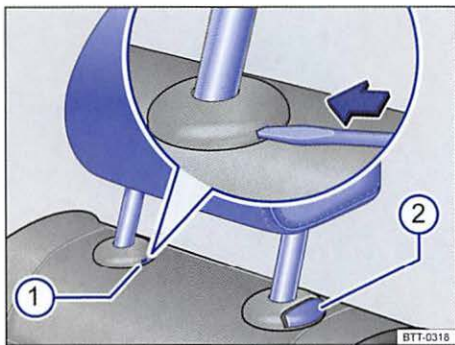

Fig. 38 Removing rear head restraints.
trim cap $\Rightarrow$ fig. 38 (1) in the direction of the arrow and hold it in this position.
- At the same time press button (2) while a second person pulls out the head restraint completely.